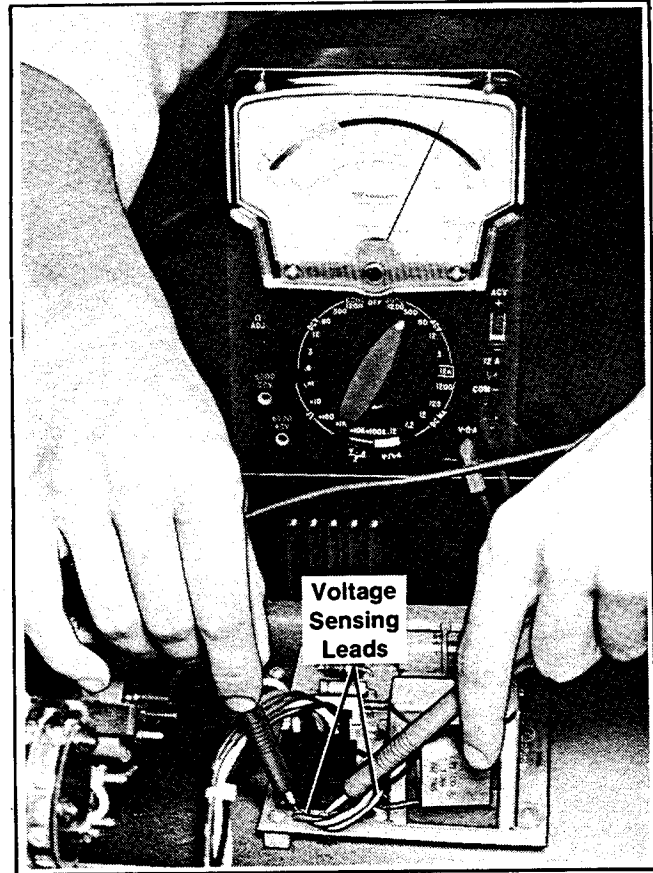

Figure 4-15. Voltage Regulator Board AC Voltage Check
- Start set. Check AC voltage across red wires near harness connector on voltage regulator board. See Figure 4-15.
- Restart set. Recheck AC voltage at voltage regulator board as shown in Figure 4-15. AC voltmeter must show proper output.